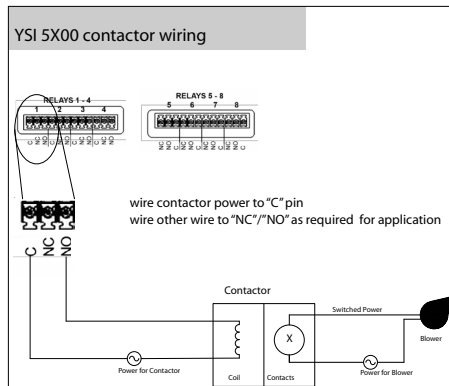

Figure 3.22
- CAUTION:** Do not overload relay(s). Check manufacturer specifications for inductive current/amp at power up. Use a contactor if necessary - figure 3.22. (Common lettering references are used for both 5400 and 5500 models).
The eight onboard relays are rated at 240VAC@5AMPs (110VAC@10AMPs) switching capacity. Contactors should be used for devices drawing current loads higher than relay specification. See figure 3.22 for contactor wiring.